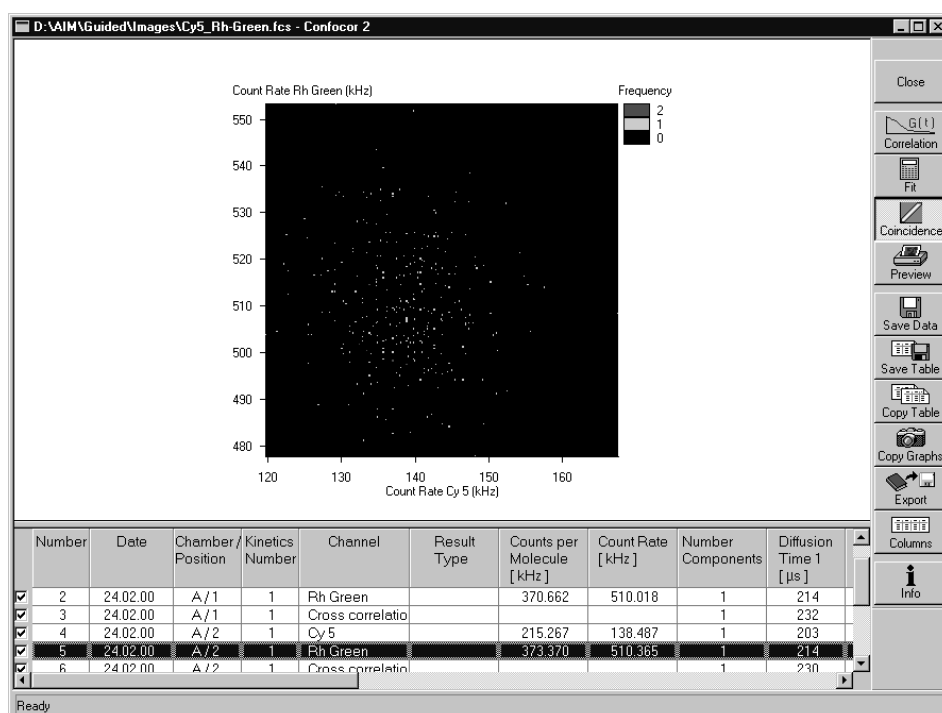

Fig. 3-116 Coincidence diagram window
- The coincidence analysis generates a two-dimensional color-coded count rate histogram (Fig. 3-116).